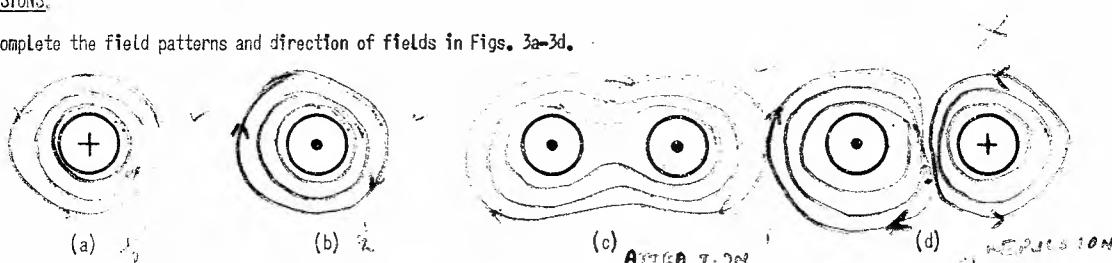

FIG. 3.
2. With reference to Fig. 3 explain how a solenoid establishes a magnetic field.